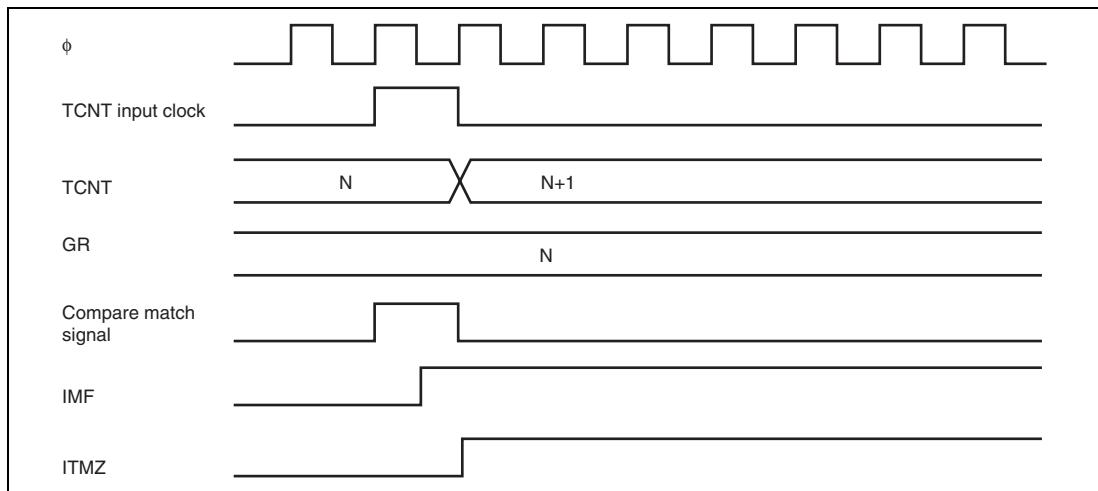

Figure 12.48 IMF Flag Set Timing when Compare Match Occurs
1. IMF Flag Set Timing: The IMF flag is set to 1 by the compare match signal that is generated when the GR matches with the TCNT. The compare match signal is generated at the last state of matching (timing to update the counter value when the GR and TCNT match). Therefore, when the TCNT and GR matches, the compare match signal will not be generated until the TCNT input clock is generated. Figure 12.48 shows the timing to set the IMF flag.